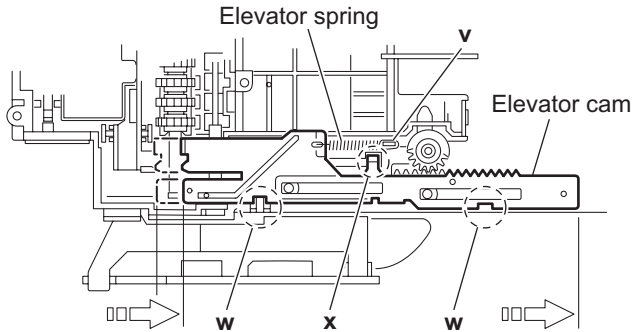

Fig.24
- (3) From the top side of the DVD changer mechanism assembly, turn the gear 1 clockwise to move the elevator cam rearward. (See Fig.24.)
- (4) Move the two slots **w** and joint **x** of the elevator cam and remove the elevator cam outward. (See Fig.24.)